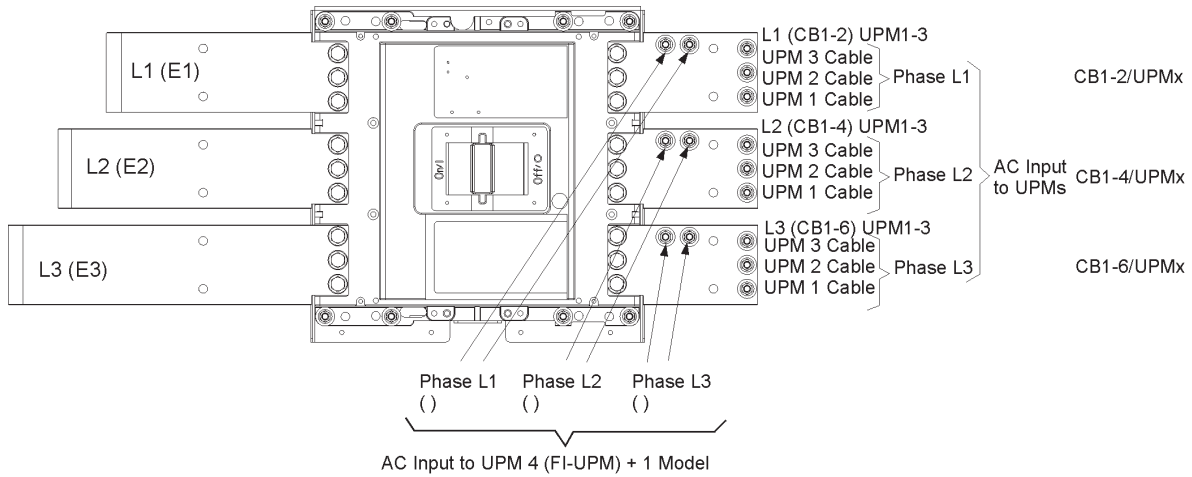
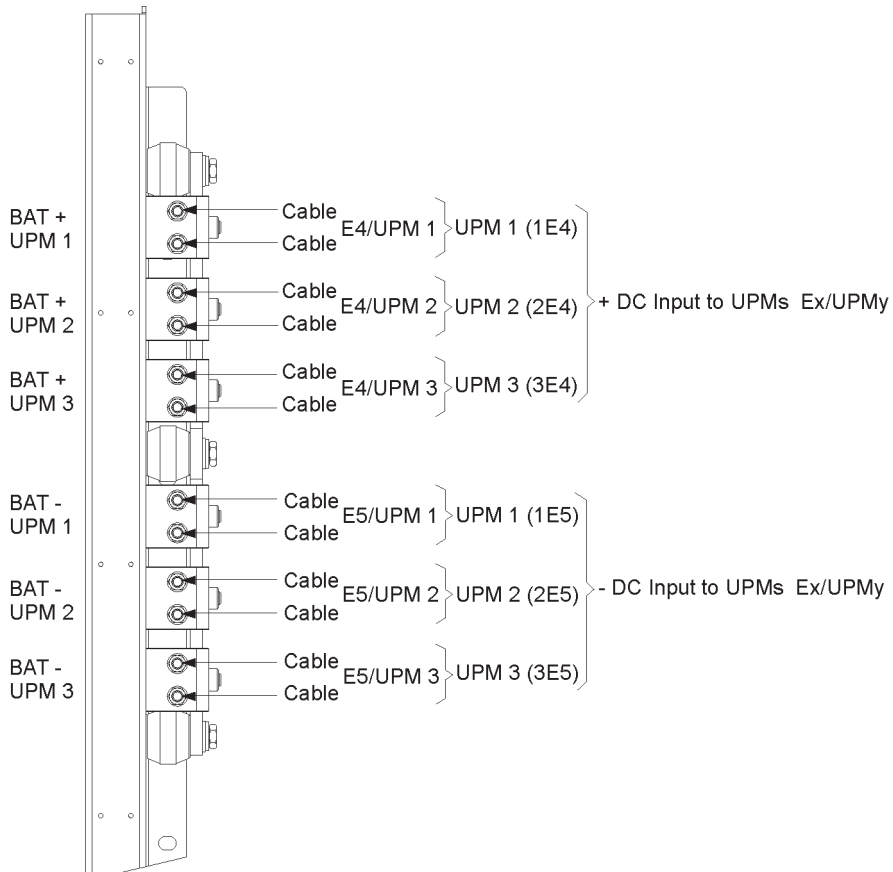
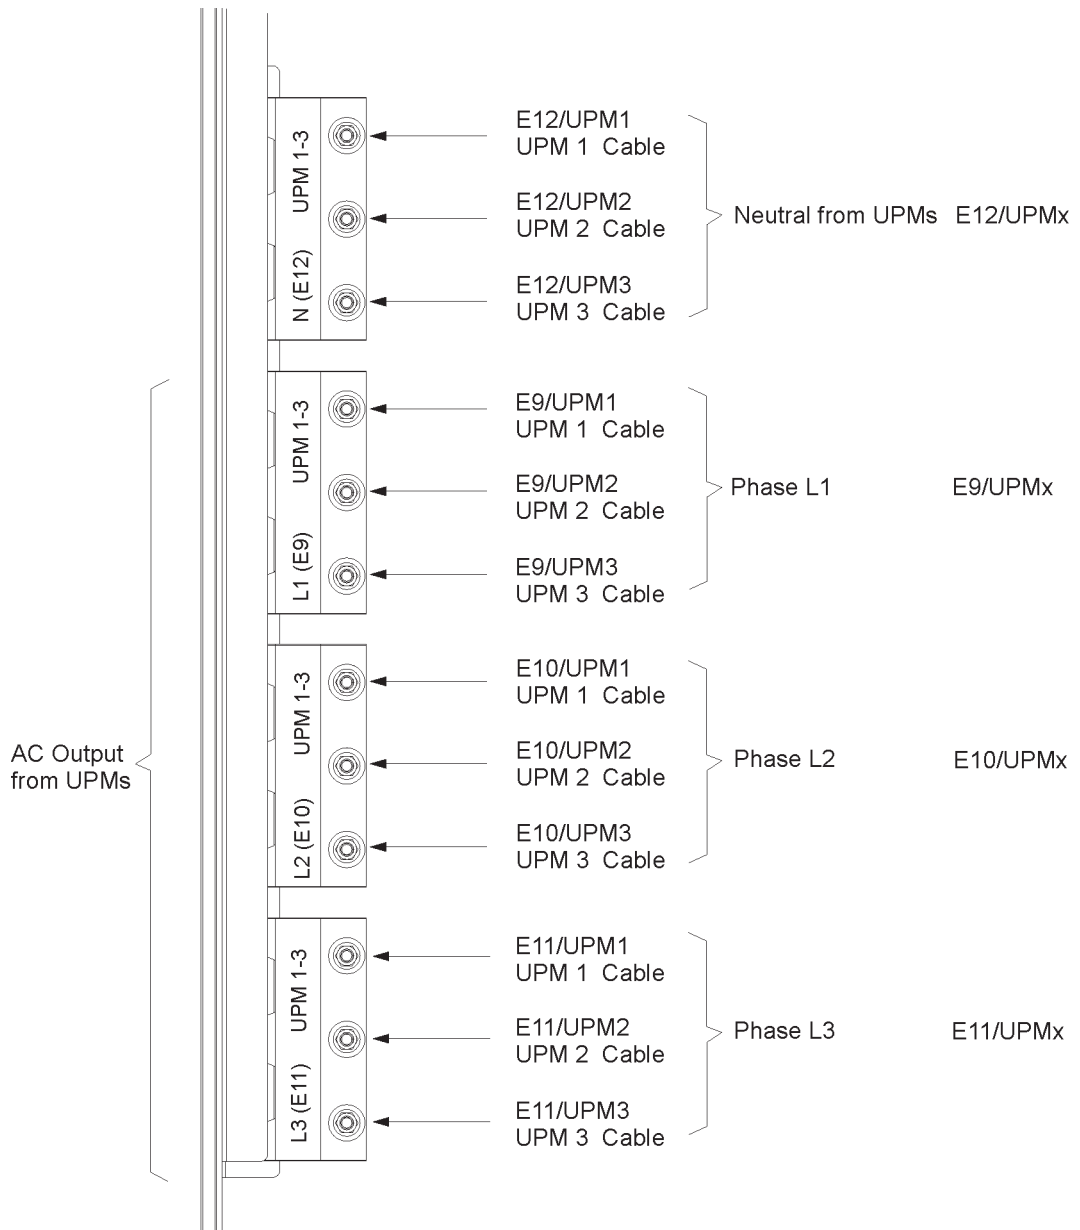

Figure 4-7. UPS ISBM section input power terminal detail
Figure 4-8. UPS ISBM section battery input power terminal detail
Figure 4-9. UPS ISBM section interconnection power terminal detail
7. Using hardware from the intercabinet wiring terminal hardware kit, connect phase L1, L2, and L3 cable lug connections to the AC input to UPMs terminals. Follow the callout details in Figure 4-7 on page 43 to connect the correct cable lug to the proper terminals.
9. Using hardware from the intercabinet wiring terminal hardware kit, connect the positive and negative cable lug connections to the DC input to ISBM terminals. Follow the callout details in Figure 4-8 on page 43 to connect the correct cable lug to the proper terminals.
11. Using hardware from the intercabinet wiring terminal hardware kit, connect phase L1, L2 and L3 and neutral cable lug connections to the AC output from UPMs terminals. Follow the callout details in Figure 4-9 to connect the correct cable lug to the proper terminals. See Section 3.2.2 on page 19 for wiring and termination requirements.
12. On 675-825 kVA models install remaining hardware (three washers, conical washers, and nuts) onto the AC input to UPMs terminals designated for the systems with a Field Upgrade UPM and secure the hardware (see Figure 4-7). This hardware is for future use if a field-installed UPM (FI-UPM) is installed to upgrade the UPS to a system with a Field Upgrade UPM.
For details of the power terminals shown in the figure above see Figure 4-7, Figure 4-8 and Figure 4-9.